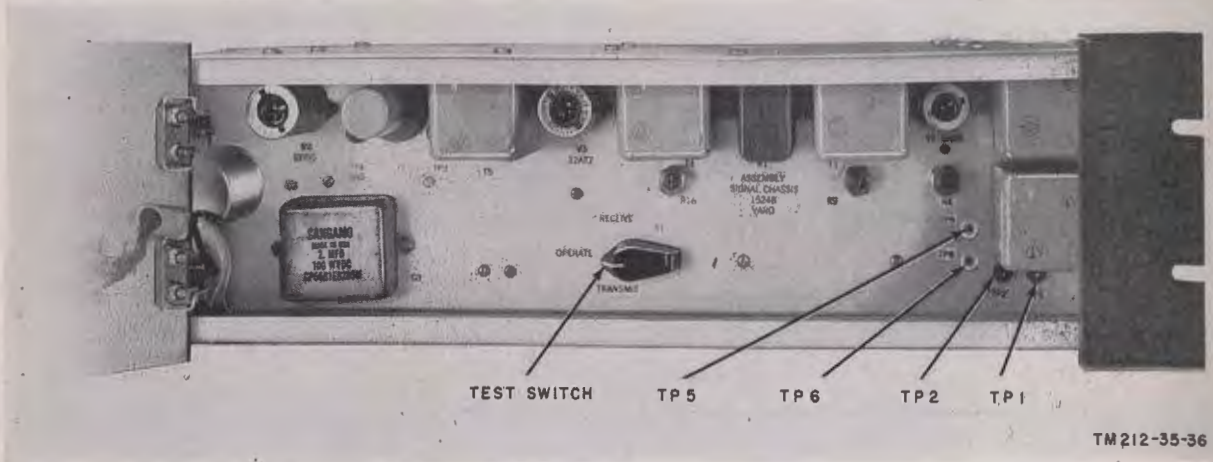
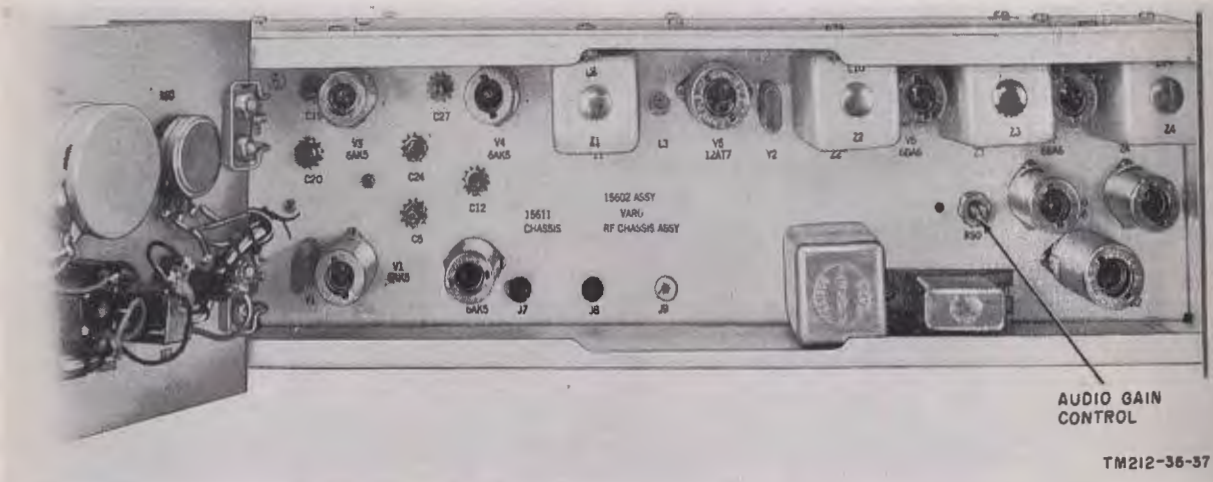

Figure 33. Telephone Signal Converter CV-542/TRC-47, internal controls.
Figure 34. Radio Receiver R-748(*)/TRC-47, internal controls.
a. Open the front panel door of the converter. Connect Audio Oscillator TS-382E/U to terminals TP1 and TP2 (fig. 33).
a. Connect Electronic Voltmeter ME-30B/U to terminals TP5 and TP6 on the converter (fig. 33).
c. While switch S1 (fig. 33) of the remote converter is held in the TRANSMIT position, adjust audio gain control resistor R50 (fig. 34) on the local receiver. Adjust the control until a reading of .1 volt ac is obtained on Electronic Voltmeter ME-30B/U.
b. Place switch S1 in the TRANSMIT position. Connect a vacuum tube voltmeter (vtvm) across TP1 and TP2 on the converter (fig. 33). The vtmv should indicate .1 volt ac.